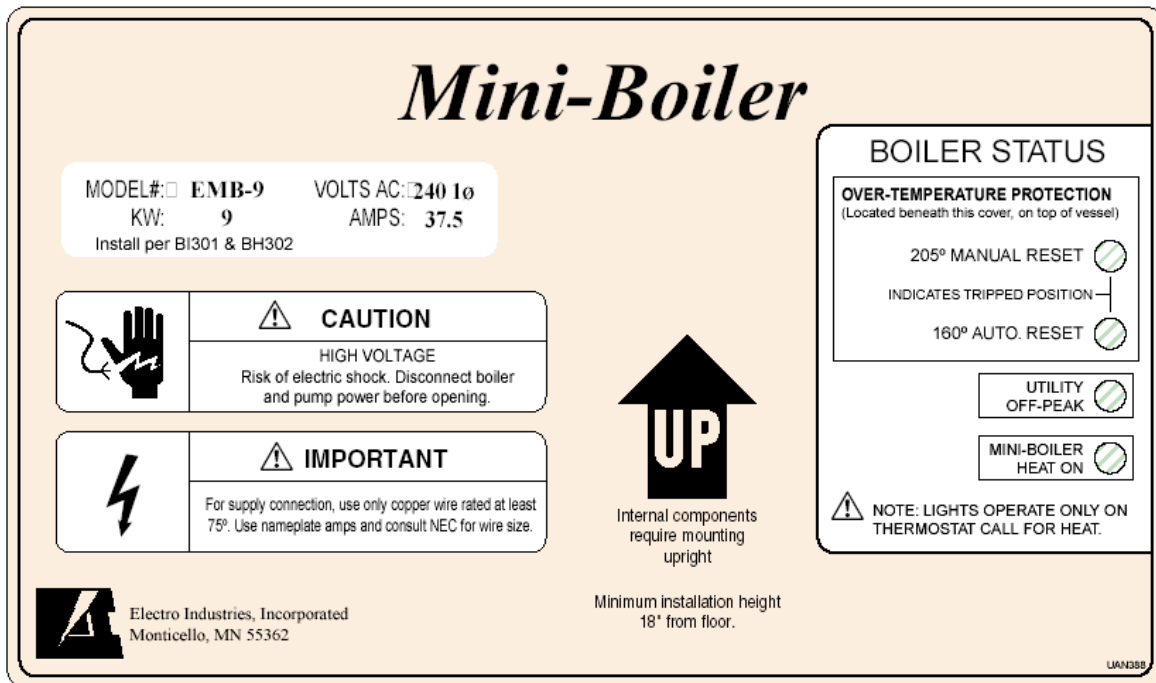

Figure 1
- Indicator lights – there is a set of four indicator lights on the lower right corner of the front cover with an identical set of four indicator lights on the internal circuit board itself. Figure 1 is a reproduction of the front decal giving definition and information for using these indicator lights. Note the statement that there must be a call for heat before attempting to interpret the indicator lights.